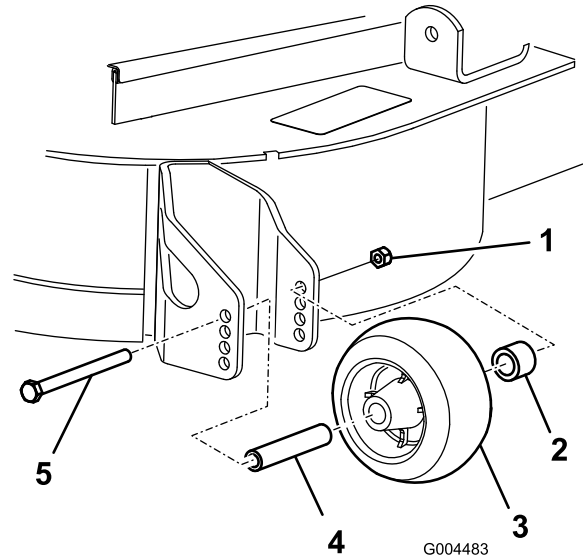

Figure 8
3. After adjusting the height-of-cut, adjust the rollers by removing the flange nut, bushing, spacer, and bolt (Figure 8).
5. Install the flange nut bushing, spacer, and bolt. Torque to 40-45 ft-lb (54-61 N·m) (Figure 8).